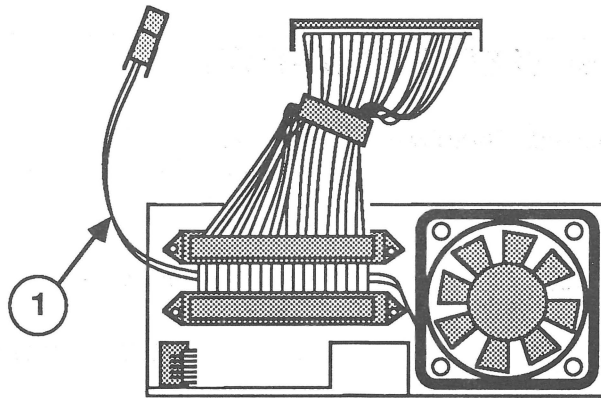

FIGURE 7
1. Thread the fan cable (Figure 7, #1) between the two cable-connector openings in the fan frame, and then set the cable connectors in the appropriate openings. Make sure that the fan cable is not pinched by the connectors.